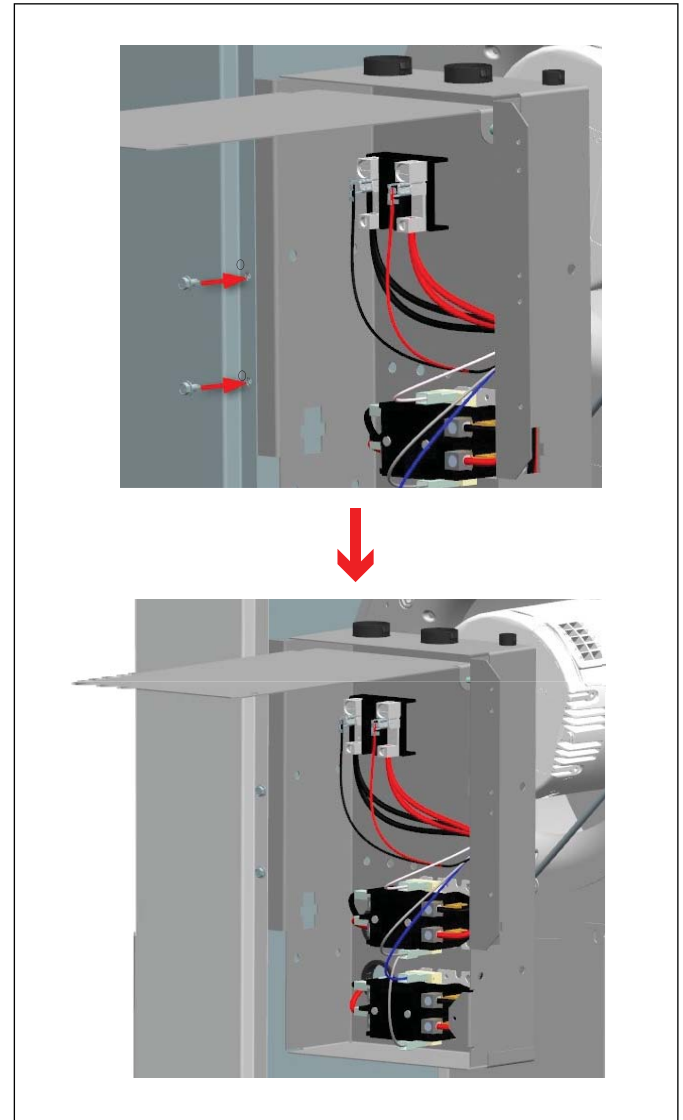

Figure 29
3. Secure with screws as shown to complete EH control box installation (figure 29).